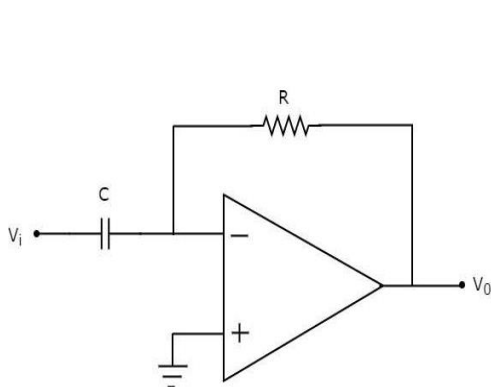

Fig. 5.1 Ideal Differentiator
The ideal circuit of an differentiator is shown in figure 5.1, assuming the opamp to be ideal.
1. Set up the practical differentiator shown in figure 5.1 with $R_1=10\text{ K}\Omega$, $R_2=200\text{K}\Omega$ and $C = 1000\text{ pF}$ (1nF). Follow the standard opamp pin connection for assembling the circuit including the connections to the DC power supply.